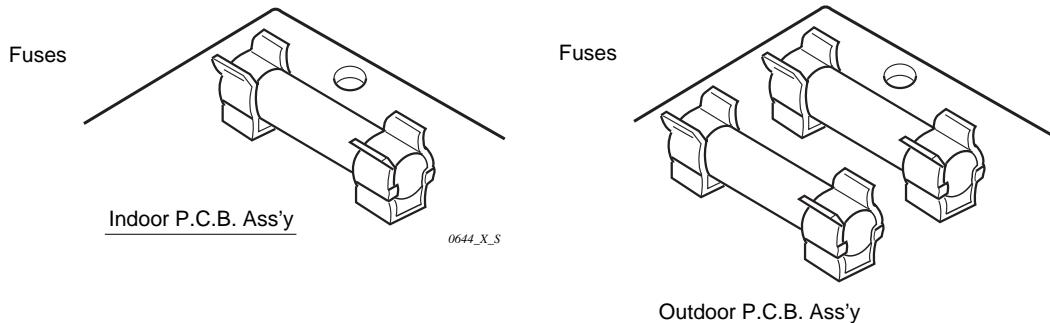

Fig. 31
⑩ Fuse on indoor and outdoor P.C.B. Ass'y Both in indoor and outdoor unit
- Remove the P.C.B. Ass'y from the electrical component box. Then pull out the fuse from the P.C.B. Ass'y. (**Fig. 31**)